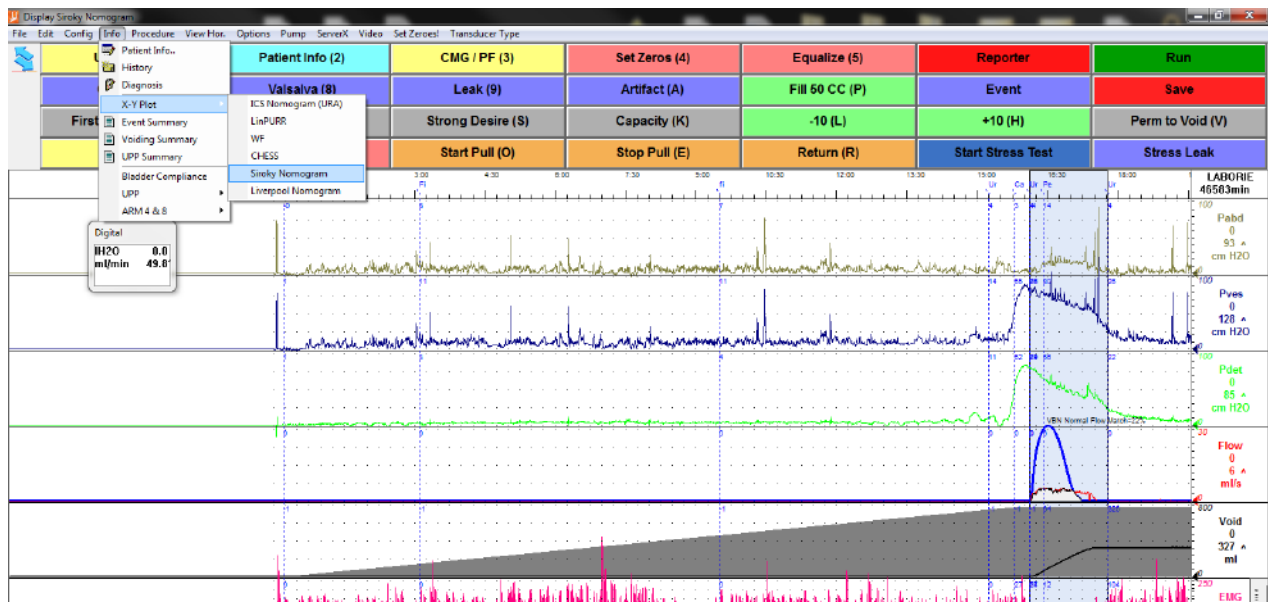

Figure 91: Access Siroky Nomogram
2. Click **Info > X-Y Plot > Siroky Nomogram** (Figure 91).